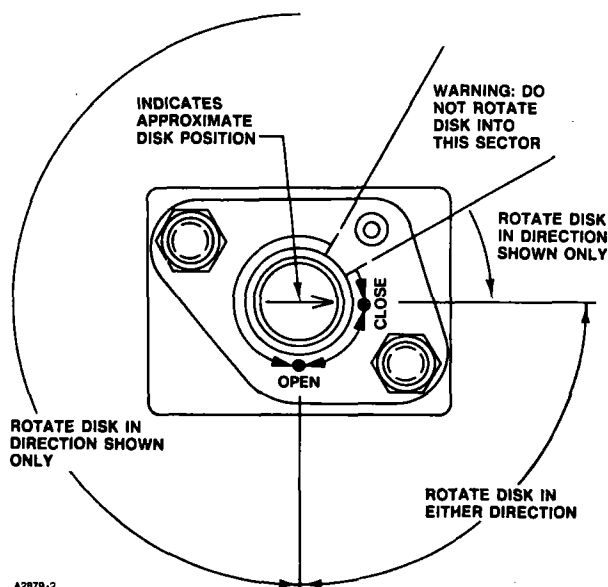

Figure 2. Disk Rotation Indication for 2 through 24-Inch Sizes
- For 2 through 24-inch sizes, refer to either the packing follower (key 15) or the rotation tag (figure 2 and key 19, figures 10